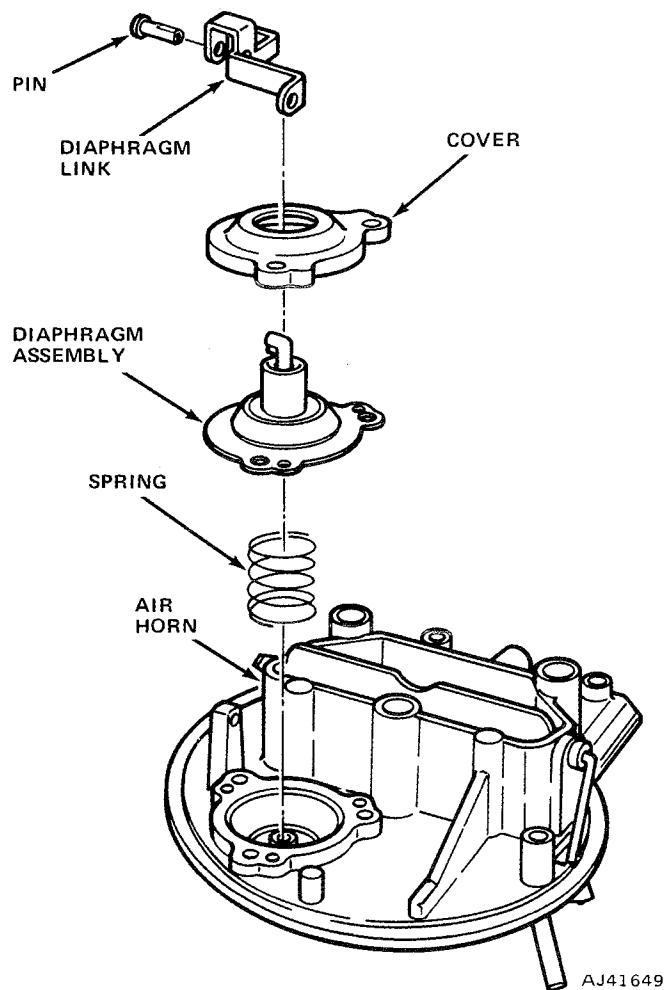

Fig. 1J-77 Choke Modulator Assembly
- (1) Remove air cleaner anchor screw.
- (2) Remove automatic choke rod retainer from thermostatic choke shaft lever.
- (3) Remove air horn attaching screws, lockwashers and carburetor identification tag. Remove air horn and air horn gasket.
- (4) Remove choke rod by loosening screw that secures choke shaft lever to choke shaft. Remove rod and plastic dust seal from air horn.
- (5) Remove choke modulator assembly (fig. 1J-77).
- (6) Remove fast idle cam retainer (fig. 1J-78).
- (7) Remove choke shield.
- (8) Remove thermostatic choke spring housing retaining screws and clamp, housing and gasket.